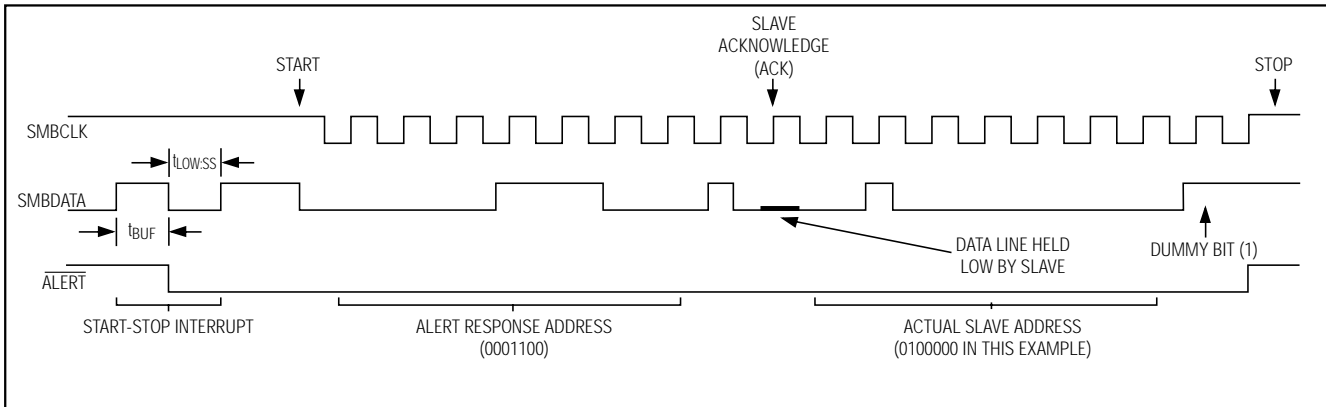

Figure 5. START-STOP Software Interrupt Timing Diagram and Alert Response
**Note 7:** Refer to Figure 5 for START-STOP interrupt timing diagrams and parameter definitions.
The START-STOP interrupt is a method for the slave device to initiate a signal over the 2-wire interface without the need for a third (interrupt) wire. A START-STOP interrupt is a start condition followed by a stop condition; in other words, SMBDATA goes low and then high with SMBCLK high (Figure 5 shows the START-STOP interrupt and a subsequent Alert Response transmission used to clear the interrupt). The START-STOP function can be disabled (masked) by setting the data register mask SS (bit 6) high.